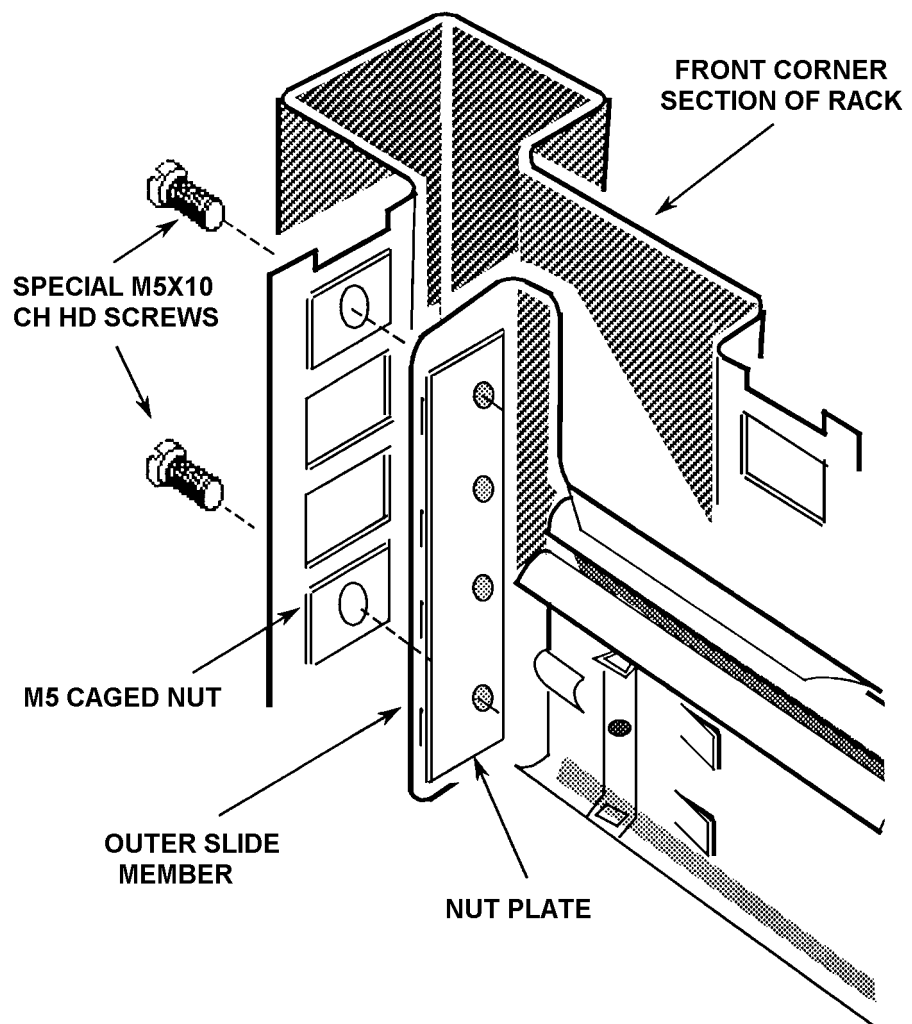

Figure 2.9 - Fitting the outer slide members into the rack
5. Fit the outer slide members to the rack, as shown in Figure 2.9.